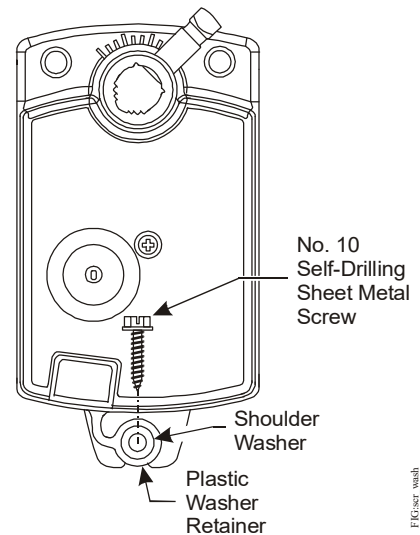

Figure 6: Inserting the screw into the shoulder washer
- Hold the actuator in place on the damper shaft, and insert the No. 10 self-drilling sheet metal screw through the shoulder washer as illustrated in Figure 6.